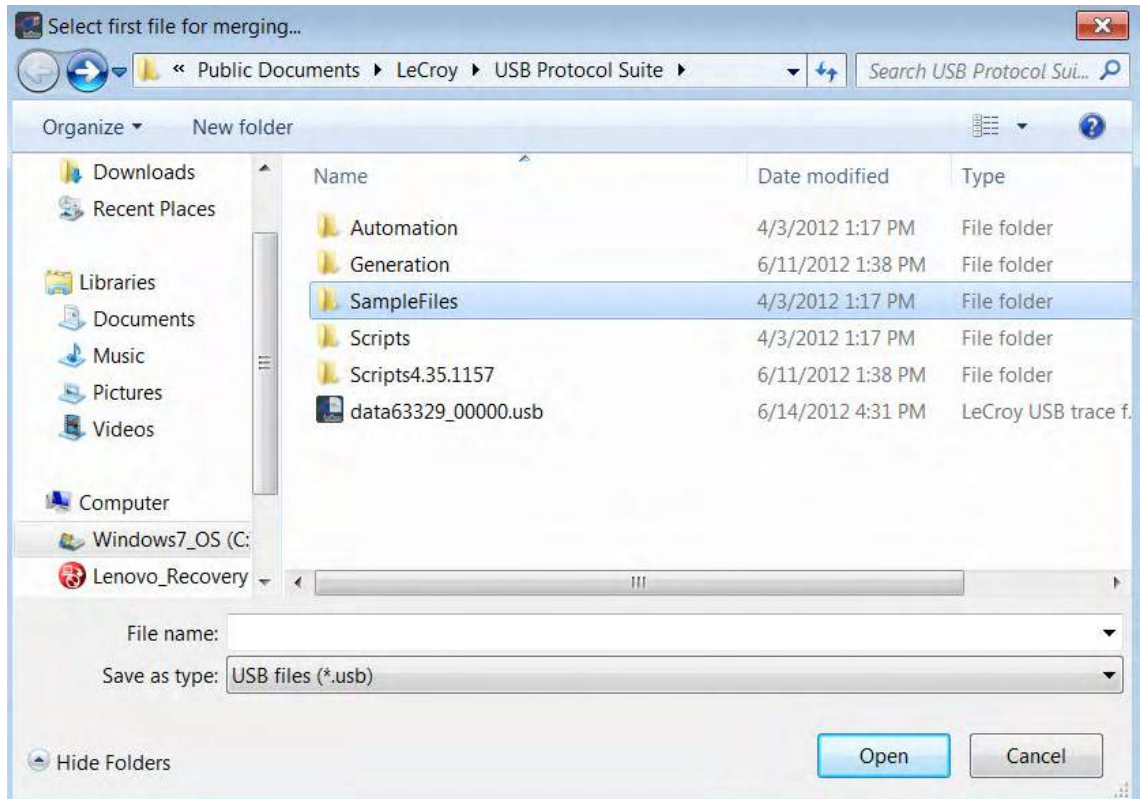

Figure 5.46: Select First File For merging Dialog.
1. Select **File > Merge Trace Files** to display a dialog box asking for the first source file (see Figure 5.46 on page 275).